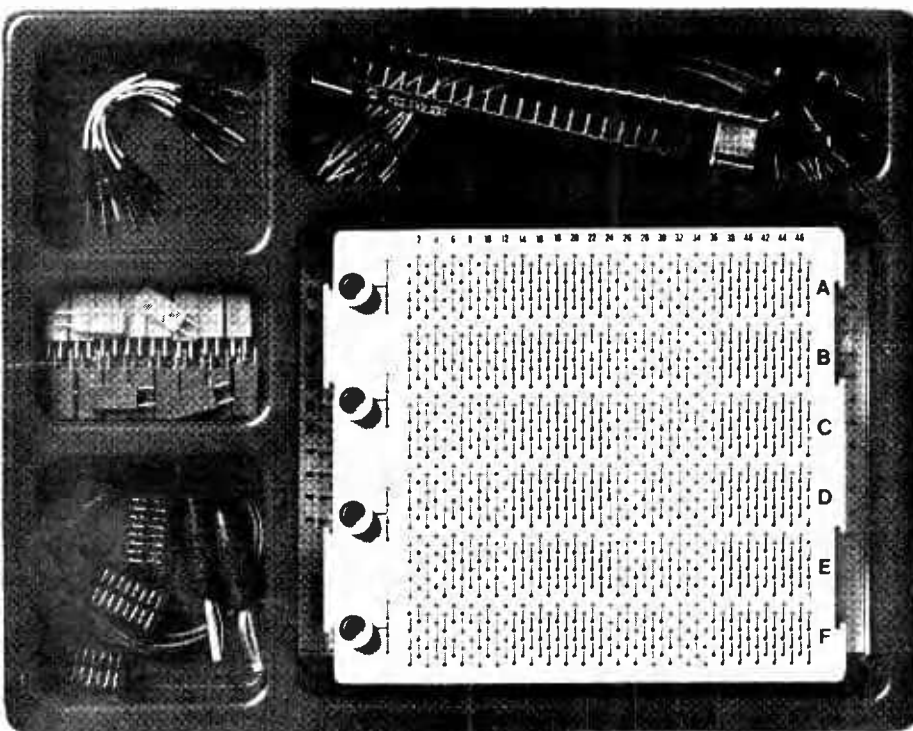

Fig. 7
**The Hirschmann Experimental Plate** in Fig. 7 follows the layout in Fig. 1(c). The board will directly accept most discrete components with lead diameters up to 1.2mm and, via special adaptors, 0.3in i.c.s. Interconnection of components is by special patch leads which are supplied in a kit. The plate has 1,128 connection points organised in six columns each with 47 rows of 4 interconnected sockets. The board is supplied with two plug strips which are used as power supply buses, and connect either 23 or 24 rows of sockets together.